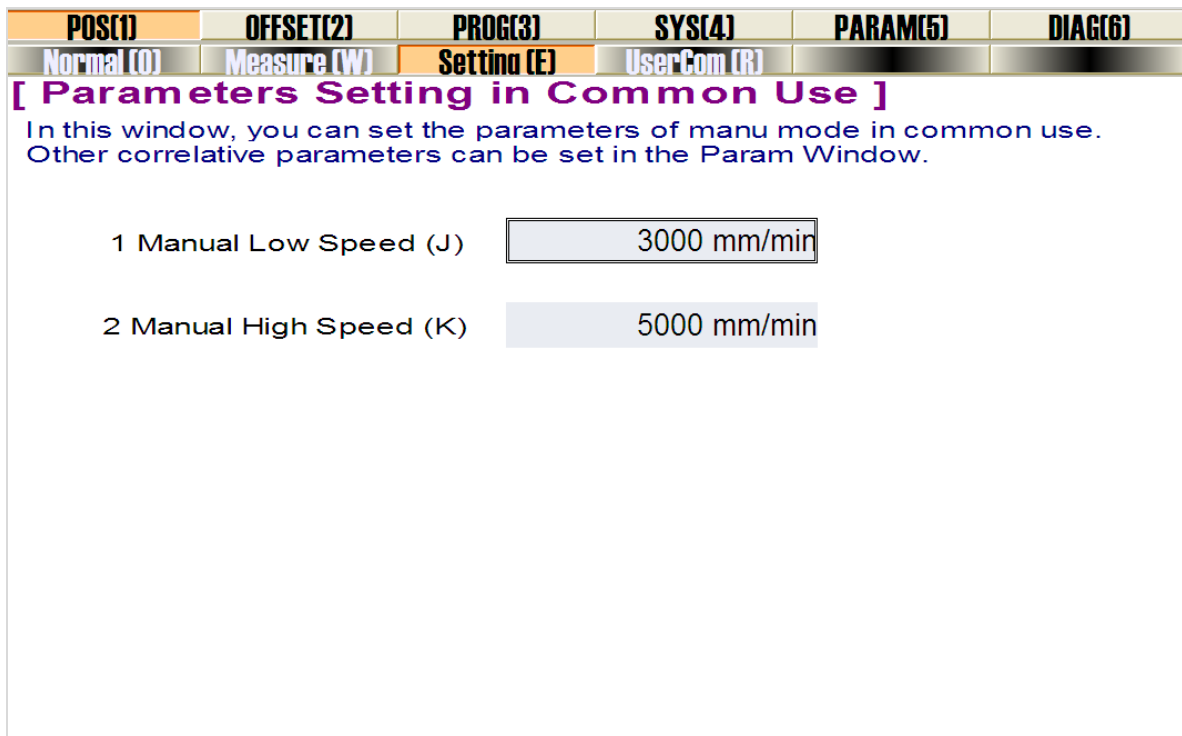

Fig. 3-18 Feedrate setting in manual mode
- 1) Turn the machine to manual mode, and access [Setting] window under [POS] functional area, as shown in Fig. 3-18. Press number button next to each parameter to open an input box, where you can set appropriate value and confirm it.